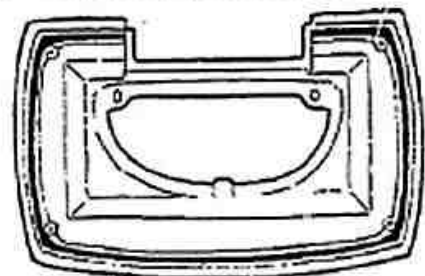

FIG. 2 CEMENT TOP PLATE
- Cement the perimeter of the new top plate in the appropriate channels. (Fig. 2).